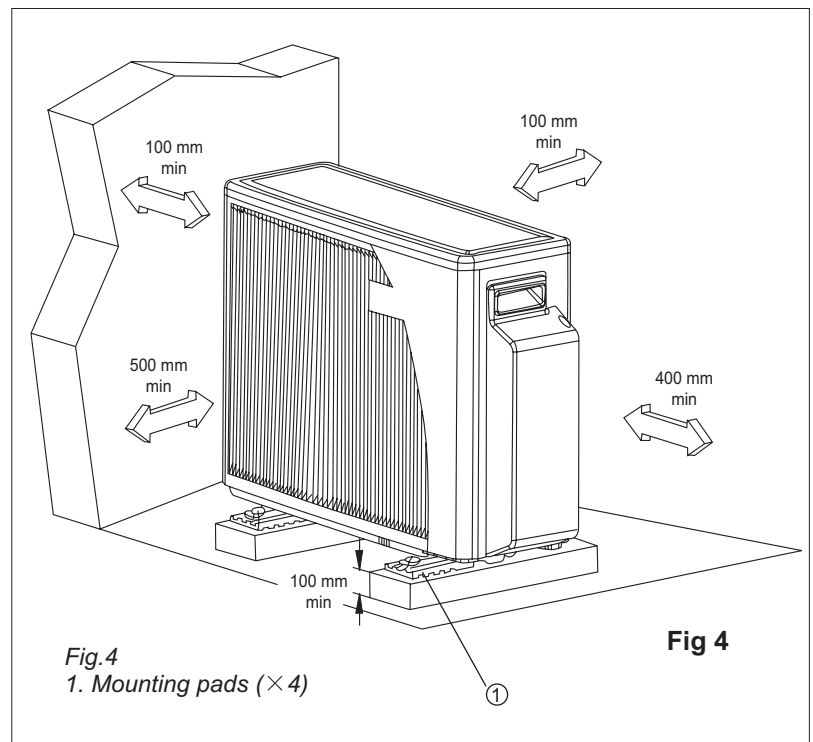

Fig.4
1. The location must allow easy servicing and provide good air circulation as shown in fig 4.